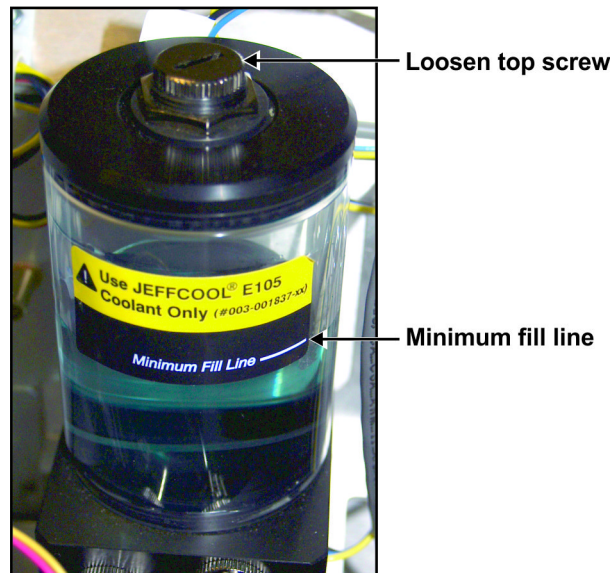

**Figure 14 Remove Front Top Lid**
2. Unlock the front lid using the low security key provided. Lift the lid up and remove (**Figure 14**).